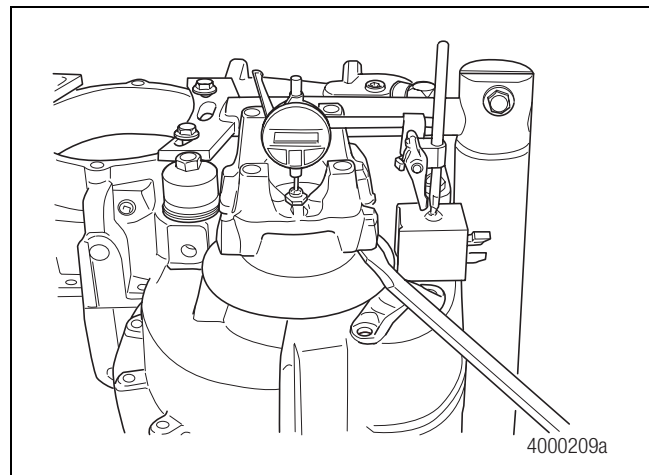

Figure 6.13
- Set up a dial indicator to check the output shaft bearing end play. Center the dial indicator over the shaft using a ball bearing for accuracy. Figure 6.13.